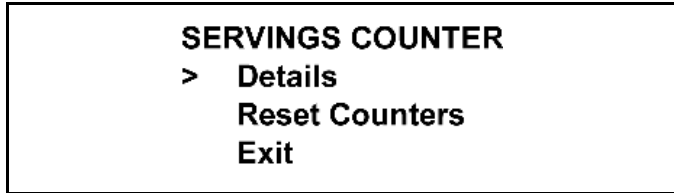

Figure 2-37
2. Move the cursor (>) to Details, and then select the Calibration key  .. (See Figure 2-37.)